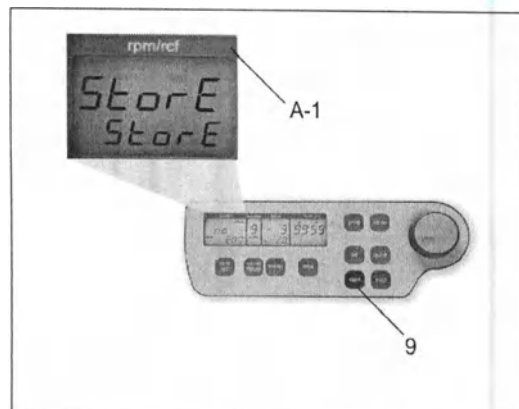

Figure 3
- All changed settings must be confirmed by the key, "start" (9). A confirmation screen will appear with the word; "store" in the display box, "rpm/rcf"(A-1) - Only then, the pre-selections are valid, (see Figure 3)